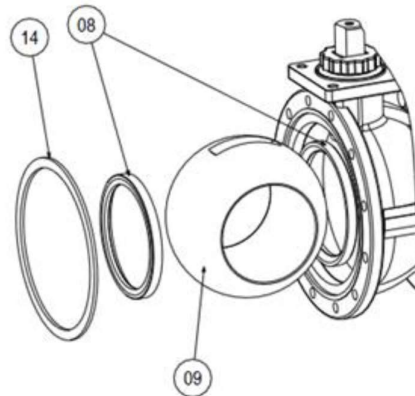

Fig. 5
- 2) Remove the seats (08) and the body gasket (14) (Fig. 5).
- 3) Replace the seats (08) and body gasket (14) with new ones.
- 2) Remove the ball (09) (Fig. 5).